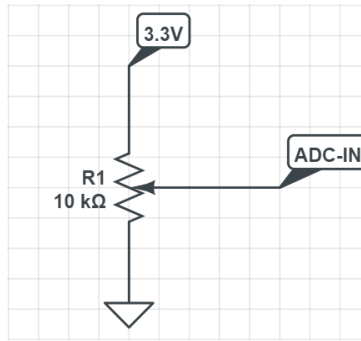

Fig. 1 Potentiometer to KL25Z circuit diagram
Connect a potentiometer to the ADC as shown in Fig. 1. It's one end is connected to 3.3V and the other end to GND. The output pin is connected to the ADC pin on KL25Z board.
1. Connect the potentiometer as shown in Fig. 1 to an ADC pin (eg. PTB0/ADC0_SE8).